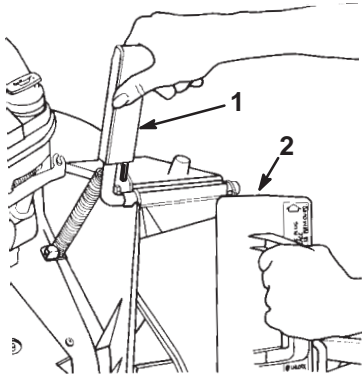

Figure 2
1. Open the discharge door by pulling forward on the handle and moving it rearward (Fig. 2). Hold the discharge door handle to prevent the spring-loaded door from closing while you insert the plug.
2. Since the plug is slightly wider than the discharge tunnel opening, rotate the plug clockwise slightly while inserting it (Fig. 2).